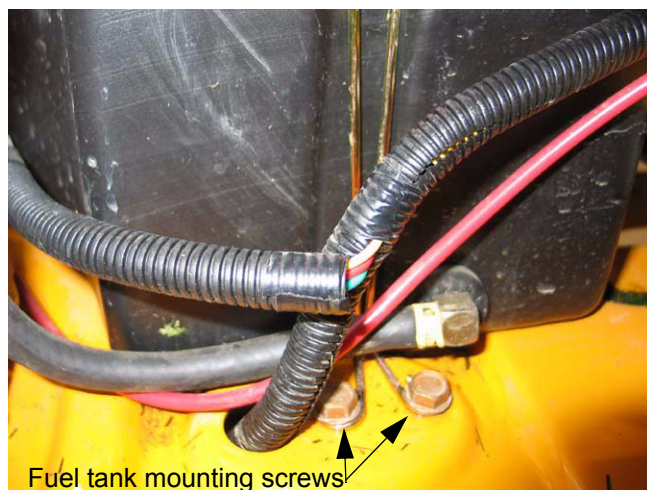

Figure 14.2
14.2. Remove the two screws securing the fuel tank mounting wire to the frame using a 1/2" socket. See Figure 14.2.